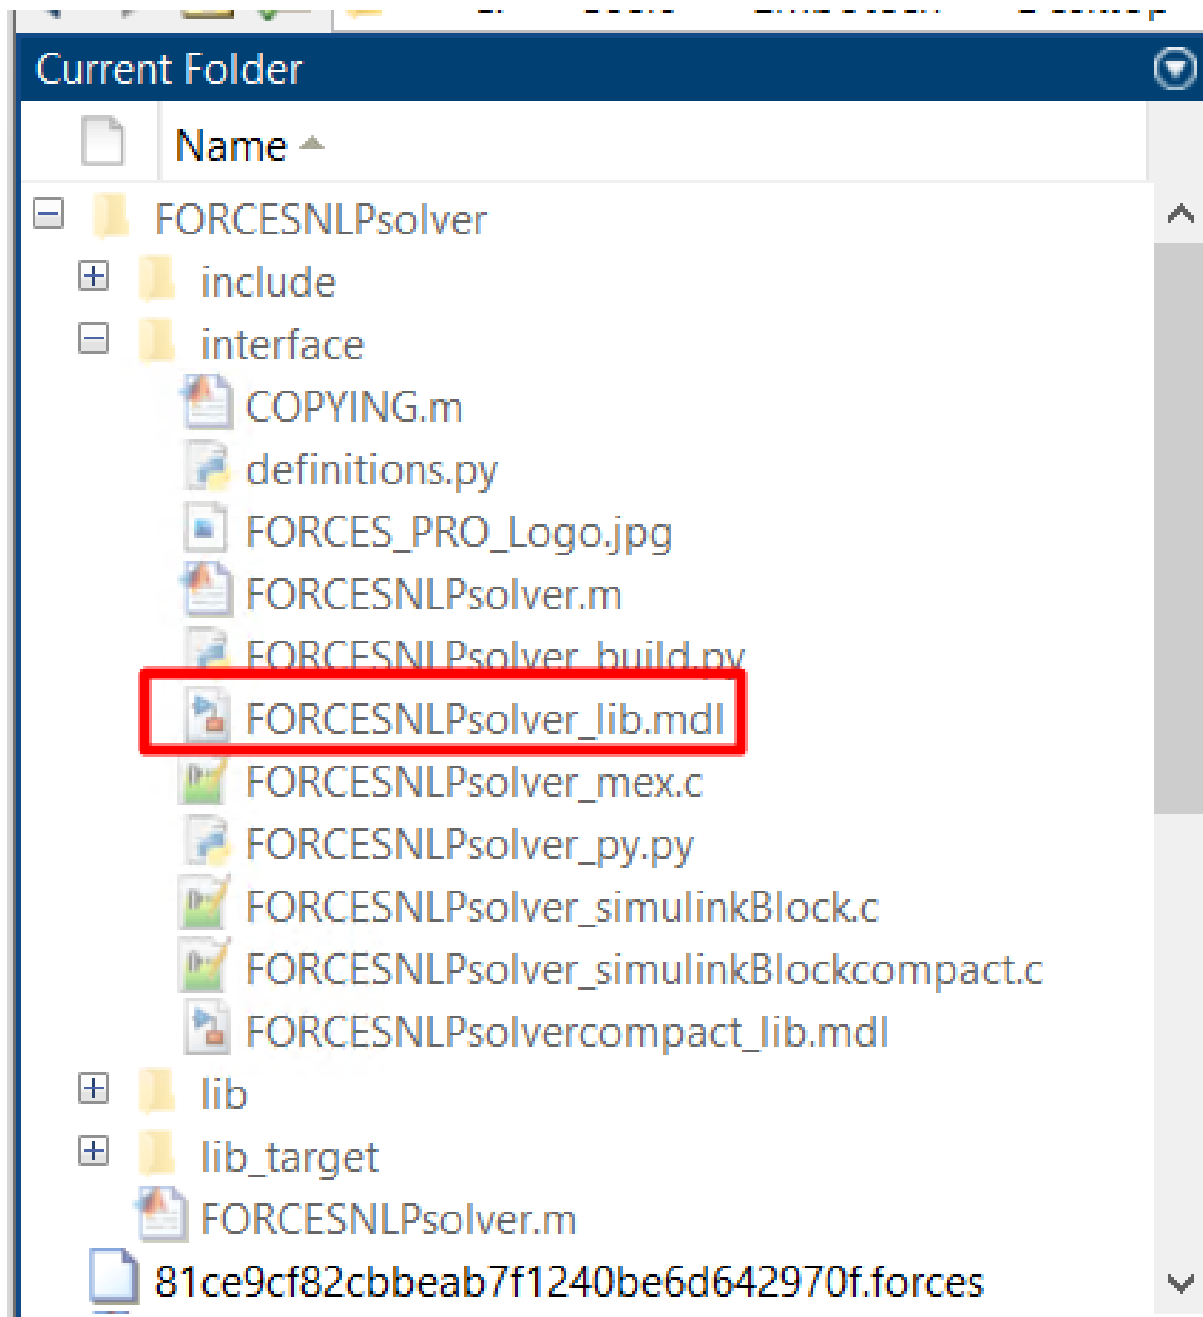

Figure 13.91: Open the generated Simulink solver model.
5. (Figure 13.91) Open the FORCESNLPsolver_lib.mdl Simulink model file, contained in the interface folder of the FORCESNLPsolver folder created during code generation.